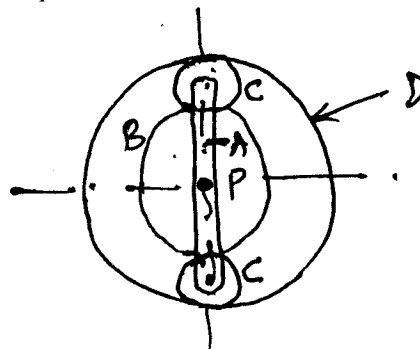

Fig.Q8(b)
- b. The Fig.Q8(b) shows an epicyclic gear train where the arm A is the driver and the annular gear D is the follower. The wheel D has 112 teeth and B has 48 teeth. B runs freely on P and D is separately driven. The arm A runs at 100 rpm and the wheel D at 50 rpm in same direction. Find the torque on B if A receives 7.5 KW.